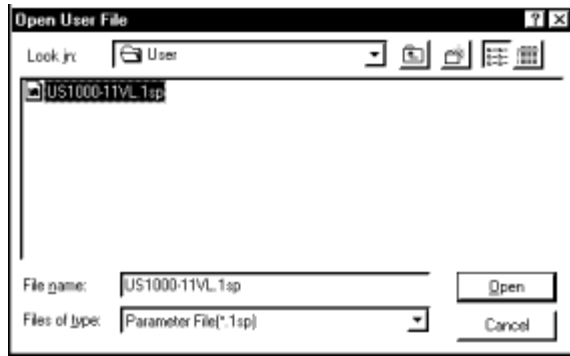

Figure 5.2.2 [Open User File] Dialog Box
- (1) From the tool menus, choose <File>, then <Open>. The [Open User File] dialog box (Figure 5.2.2) appears.
- (2) From the list box, choose the file you want to read.
- (3) Click the <Open> button.